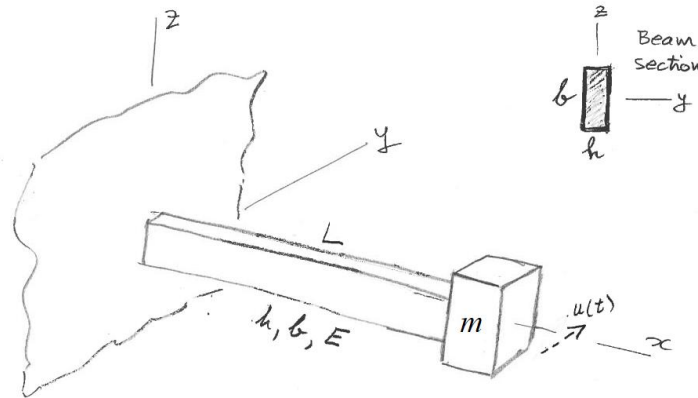

Figure 13: *Horizontal flex-beam vibrating system.*
Consider a cantilever beam of length L with a mass m attached at its tip as shown in Figure 13. The beam cross-section properties are E , h , b .
- (1) Assume vibration with horizontal time-varying displacement $u(t)$ as shown in Figure 13.
- (2) Calculate the cross-sectional stiffness EI of the beam for flexural deformation consistent with $u(t)$.
- (3) Calculate the flex-beam spring constant k .
- (4) Draw free-body diagram (FBD) including all the forces acting on the mass m .
- (5) Deduce equation of motion (EOM).
- (6) Compare the EOM deduced here with the EOM derived in Problem B.1.
- (7) Solve the initial value problem (IVP) and find the response for simultaneous application of both initial displacement u_0 and initial velocity $\dot{u}_0$.